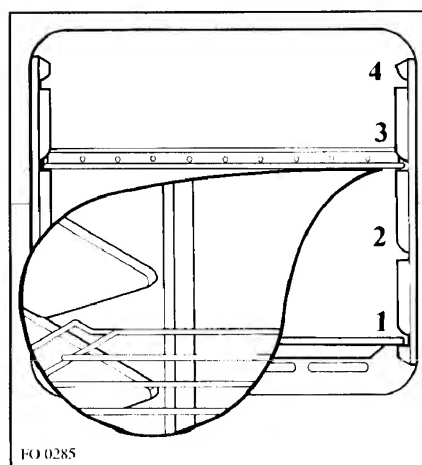

Fig. 7
**IMPORTANT: The anti-tip oven shelves must be positioned as shown in Fig. 7.**